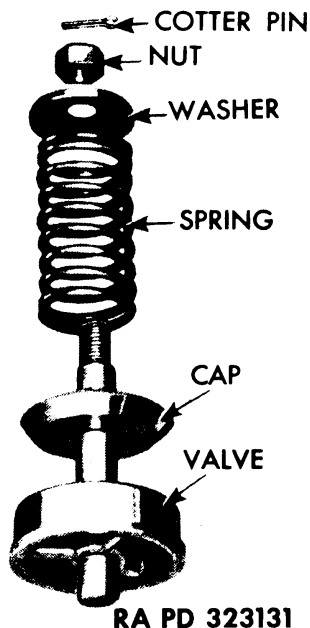

Figure 132 — Relief Valve Disassembled
f. **Disassemble Relief Valve** (fig. 132). Remove cotter pin and nut from threaded end of valve stem. Lift off washer, spring, and cap.
a. Assemble Relief Valve (fig. 132). Place cap, spring, and washer on valve stem. Replace nut, washer, and cotter pin.